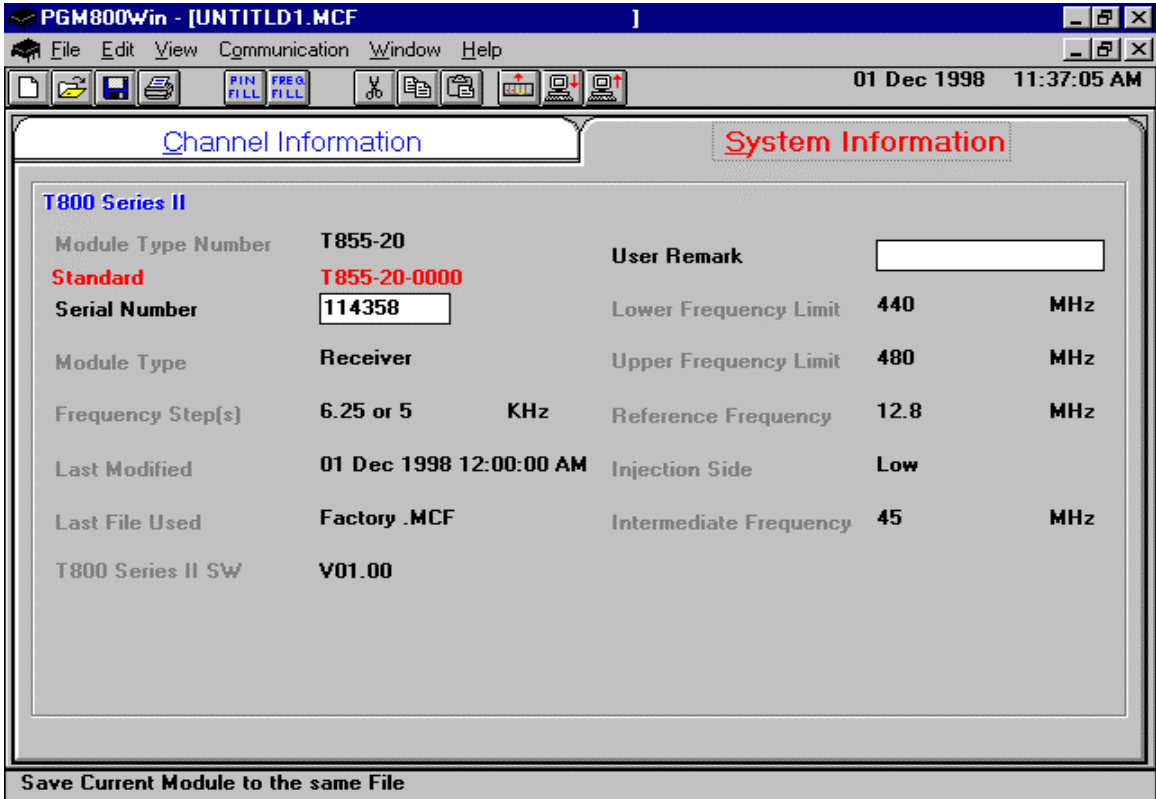
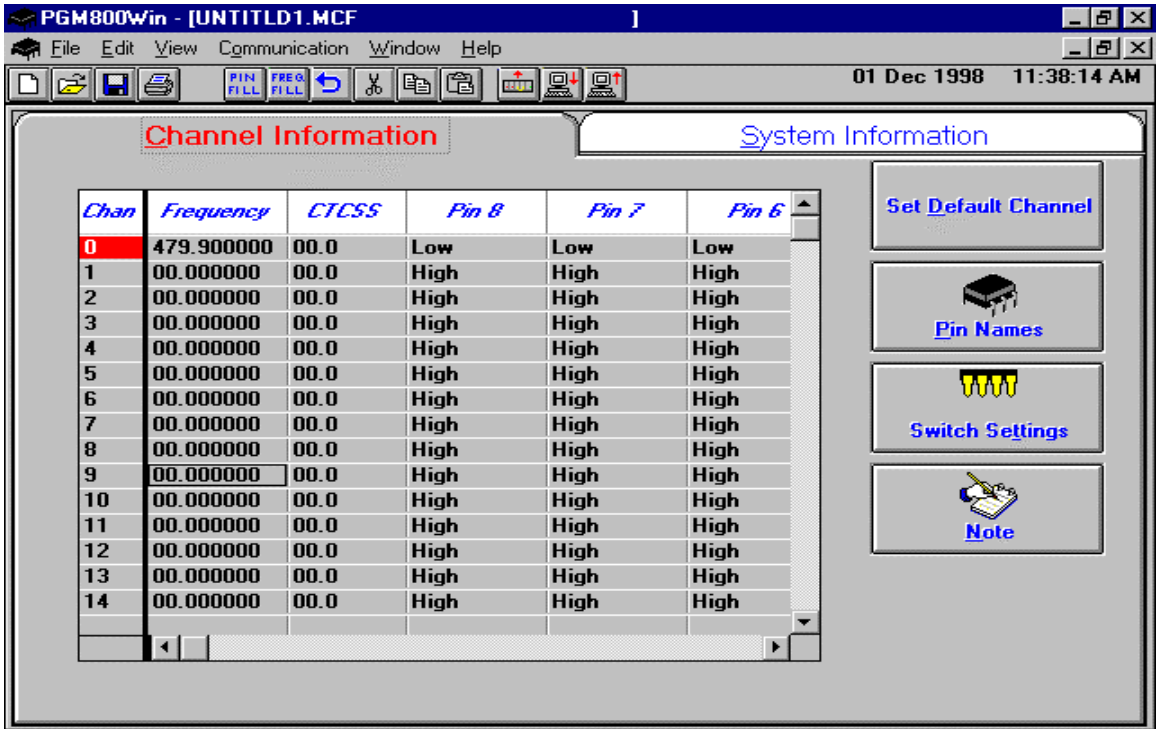
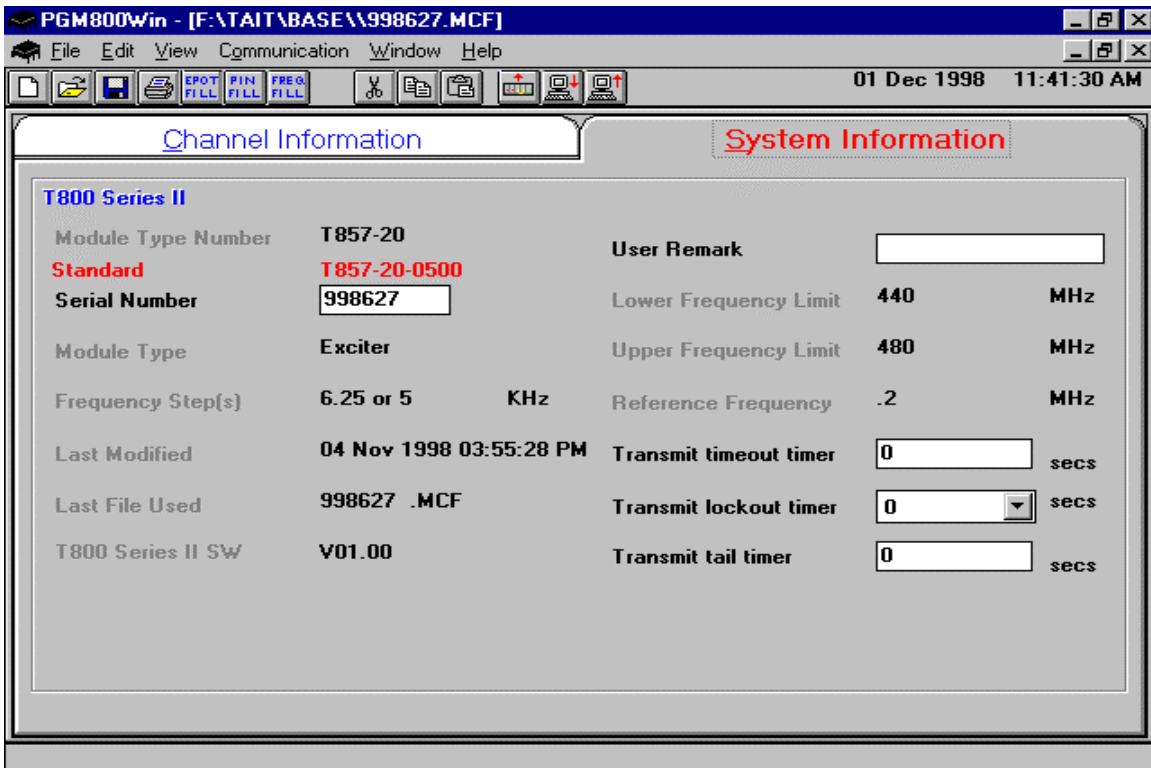
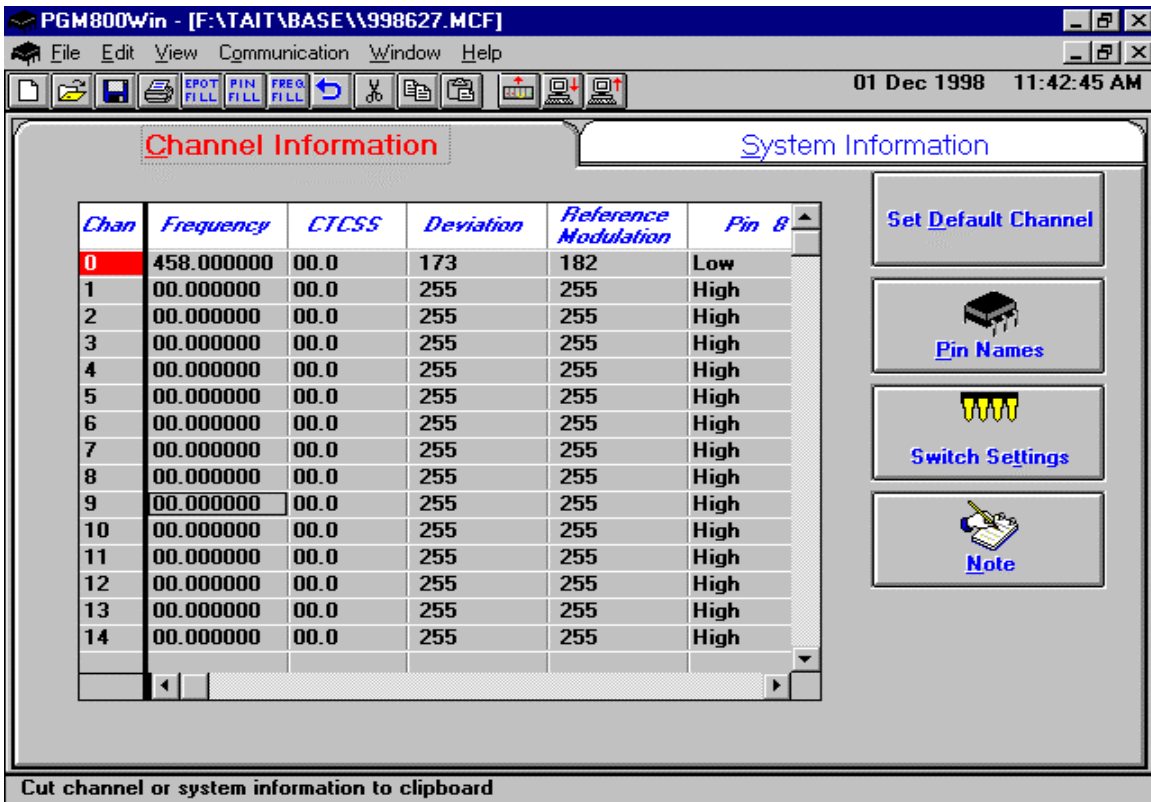

Figure 17 - Receiver System Information
Figure 18 - Receiver Channel Information screen
Figure 19 - Exciter System Information screen
Figure 20 - Exciter Channel Information screen
- Refer to Figure 17, Figure 18, Figure 19 and Figure 20 for screen program examples.